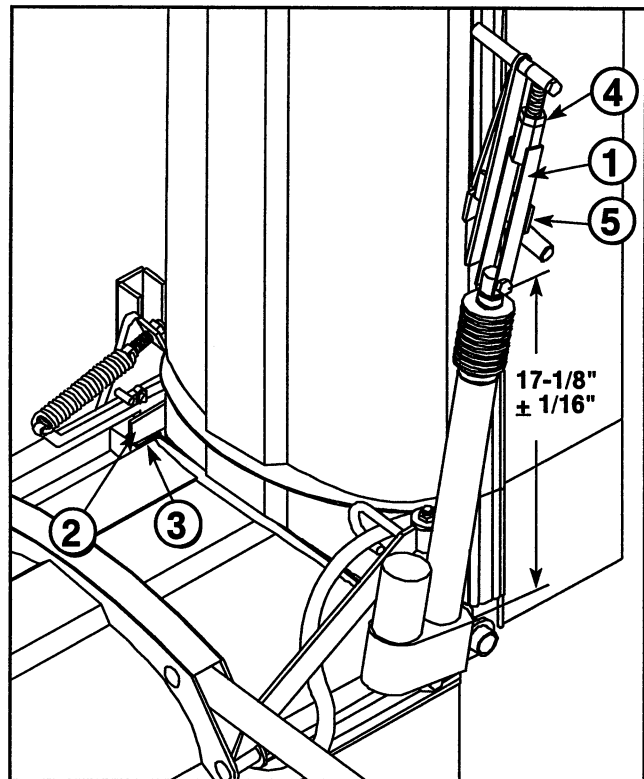

FIG. 12
6. Measure the length of the Actuator. It should be 17-1/8" ± 1/16" from the face of the Actuator Front Housing to the cap screw. (FIG. 12)